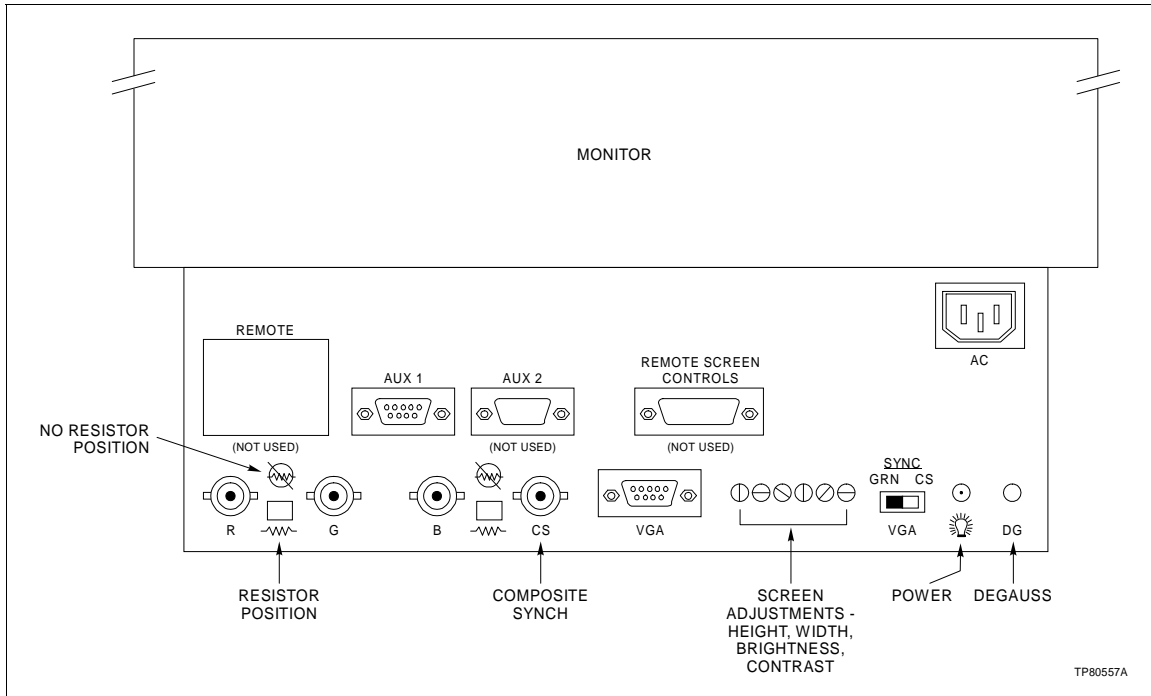

Figure 6-16. Color Monitor Connections
Monitor wiring connector location may be slightly different for each OIC console. Figure 6-16 identifies the color monitor connections.
4. Before installing a new monitor, make certain the resistor switches are set to **resistor** to insure that the termination is set for 75 ohms and that the VGA sync switch is set to **GRN** (Figure 6-16).
8. Before installing a new monitor, make certain the resistor switches are set to **resistor** to insure that the termination is set for 75 ohms and that the VGA sync switch is set to **GRN** (Figure 6-16).
5. Before installing a new monitor, make certain the resistor switches are set to **resistor** to insure that the termination is set for 75 ohms and that the VGA sync switch is set to **GRN** (Figure 6-16).